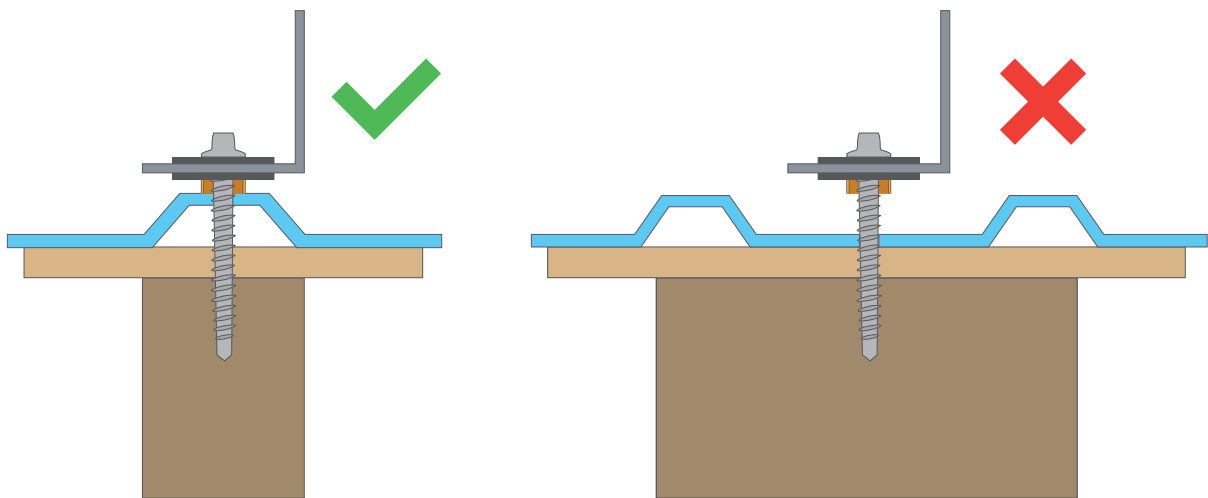

Figure 19: Screw Position On Corrugated Metal Roof
- Installing collectors on metal roofs require screwing through the metal sheeting and into the metal or wood purlin or rafter. Mounting frames may also be used to hold the collectors by direct bolting through the roof. It is important to drill through the sheeting ridges and not the valleys to reduce the likelihood of water ingress through the roof surface (Figure 19). Be careful not to tighten fasteners so tight as to crush the roofing ridges out of their proper shape.